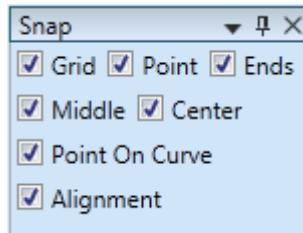

Figure 9. Snapping options.
4. The construction of a line or other geometries can further be enhanced by using the snapping facilities. Figure 9 shows the various snapping options available in GeoFEA®. These snapping options can be accessed from bottom-right corner of the window.